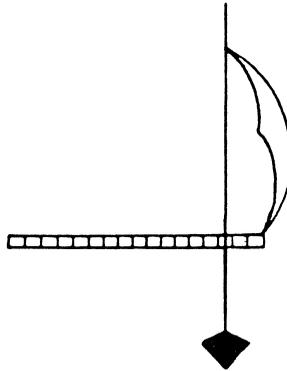

Figure 11- Measuring Pitch of the Blade
- (1) Place the oar in the swivel and have an assistant firmly hold the flat back of the shaft or working face of the oar at the button against the flat or working face of the swivel.
- (2) Place the oar perpendicular to the boat and hold it at a level comparable to its depth in the water.
- (3) Place a weighted string over the top of the blade, at a point 5 cm from the tip of the blade and allow it to hang in front of the blade until stable.
- (4) Measure the horizontal distance between the bottom edge of the blade and the hanging string (see figure 11).
- (5) Measure the width of the blade at the point 5 cm from its tip.
- (6) With these two measurements, refer to the chart shown in Appendix B to determine the pitch of the blade.